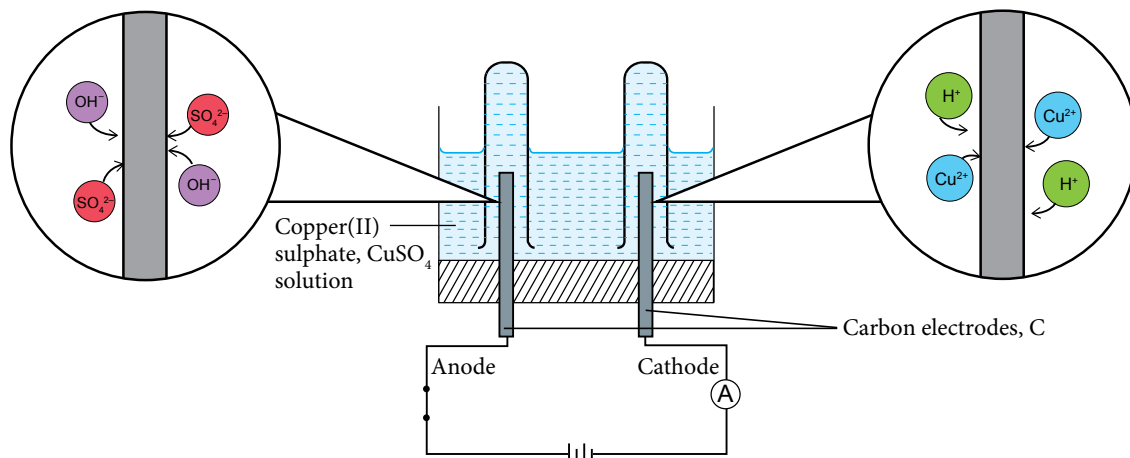

Figure 1.28 Hydroxide ion, OH^- and sulphate ion, SO_4^{2-} move to the anode and copper(II) ion, Cu^{2+} and hydrogen ion, H^+ move to the cathode
- Figure 1.28 shows the anions that move to the anode and the cations that move to the cathode during the electrolysis of copper(II) sulphate, CuSO_4 solution using carbon electrodes.